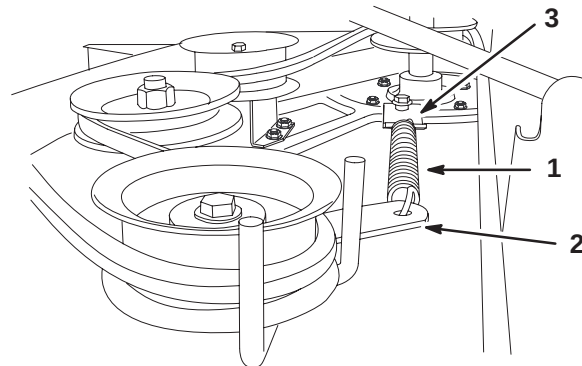

Figure 9
14. Hook the spring from the idler pulley arm to the bracket on the mower (Fig. 9).